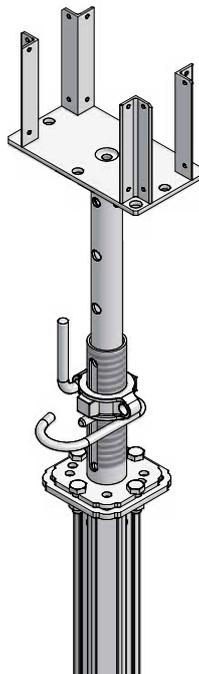

Fig. 10.3 With forked prop head MEP
- 36 to 81 cm with forked prop head MEP (Fig. 10.3) plus height of the selected stringer